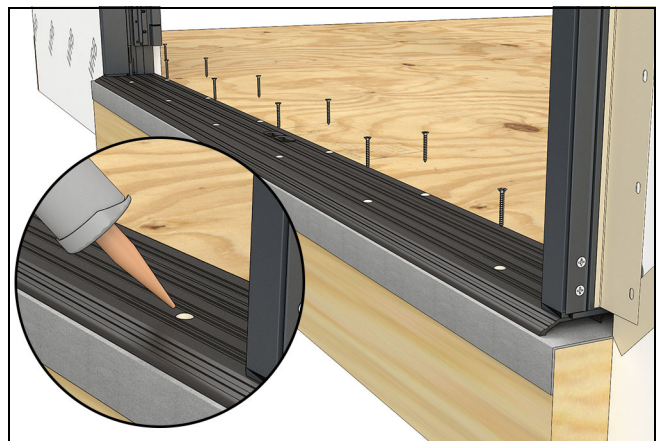

Figure 33
4. Inject sealant in the sill installation holes and fasten with the provided screws. See Figure 33.